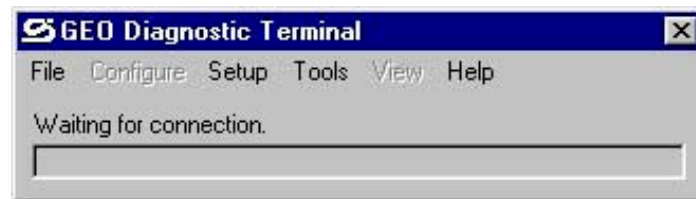

Figure 3-1
1. On the PC desktop, double click on the GDT icon (or double click on the Gdt.exe file in the Gdt folder in the Safetran directory). The GDT initialization display appears (figure 3-1) as the GDT attempts to communicate with the GEO™ unit (refer to Section IV for Session Protocol).